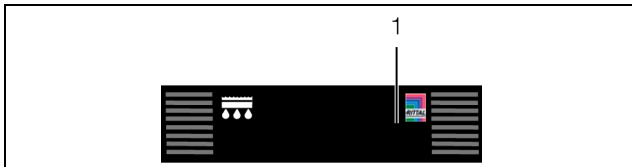
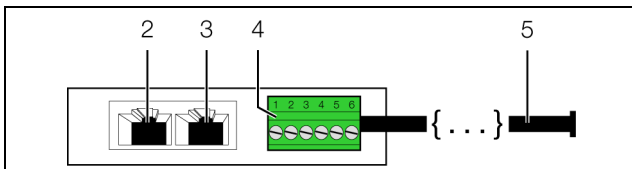

Fig. 12: Front of the leak sensor
Fig. 13: Rear of the leak sensor
A multi-LED for the status display is integrated into the front of the leak sensor (fig. 12, item 1). Further LEDs are located at the rear on the CAN bus connection (fig. 13, items 2 and 3).